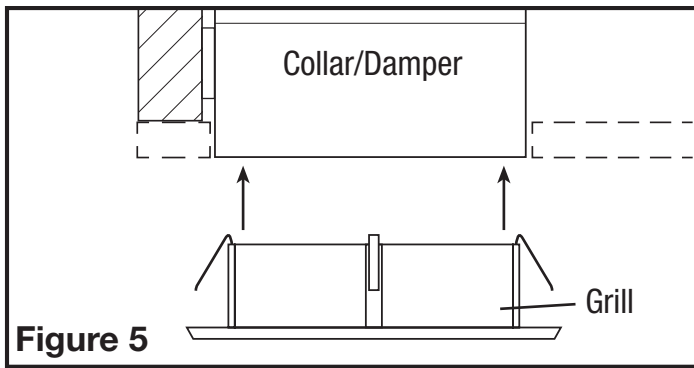

Figure 5
- Once the wall/ceiling material is in place, install the grill into the collar by pushing it firmly inward towards the collar until it fits flush against the wall/ceiling material (**Figure 5**).
3. Install the grill into the collar by pushing it firmly inward towards the collar until it fits flush against the wall/ceiling material (**Figure 5**).